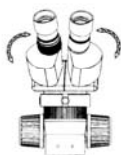

Fig.2
(1) Adjust the prism housing along the direction of arrow of the Fig.2 till the observation is comfortable